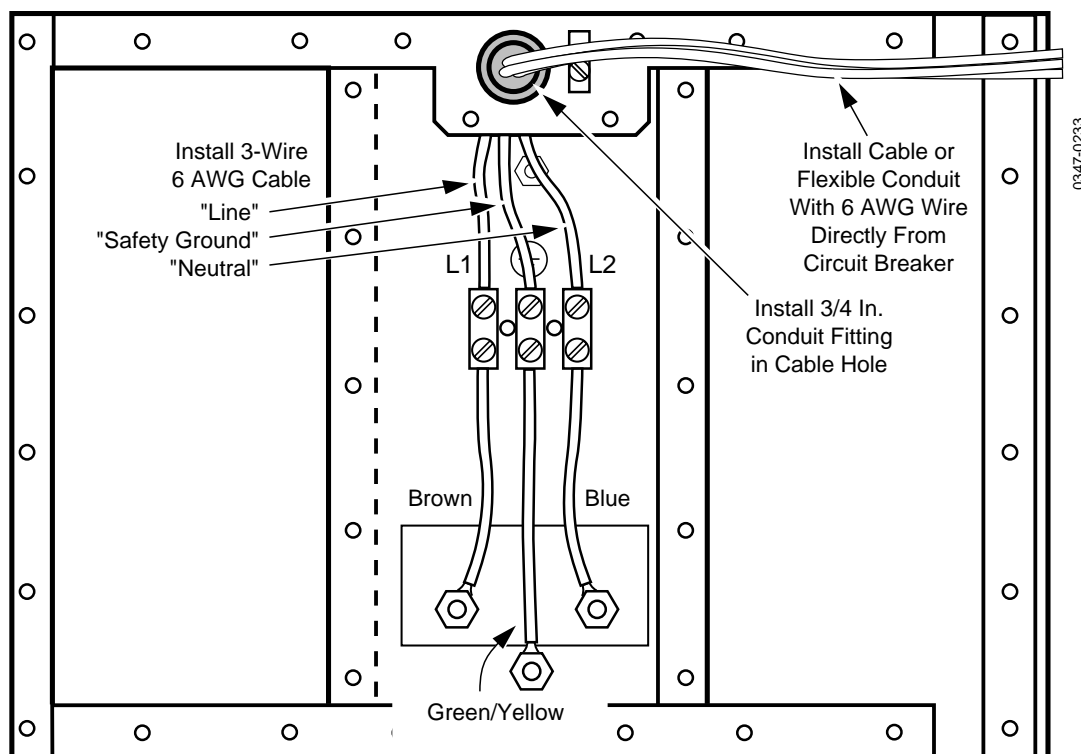

Figure 2-16. For 110 Vac Operation – Install 110 Vac Wiring
7. The 6 AWG wiring may now be installed (see Figure 2-16). It is suggested that a 3/4-inch (19 cm) electrical conduit fitting be installed in the hole from which the power cord retention block was removed and the wiring be routed in through flexible conduit from a junction box. In the United States, field wiring